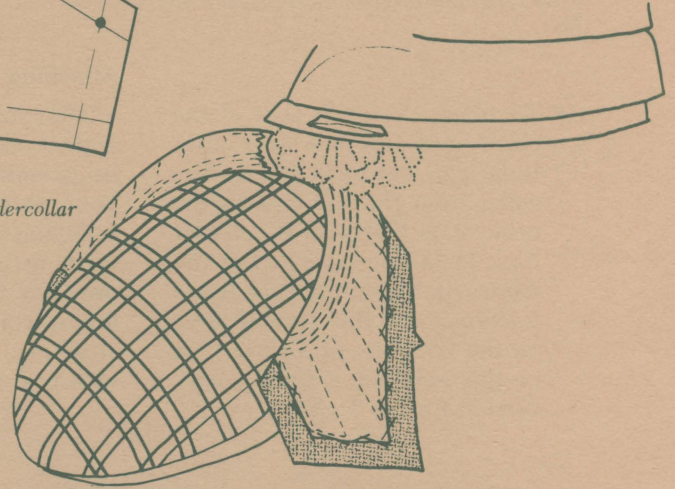

Figure 20. Shape and steam press the undercollar
- To mold the shape of the undercollar, place interfacing side up, fold along the roll line and steam press. Remove and let dry completely before handling again (Figure 20).